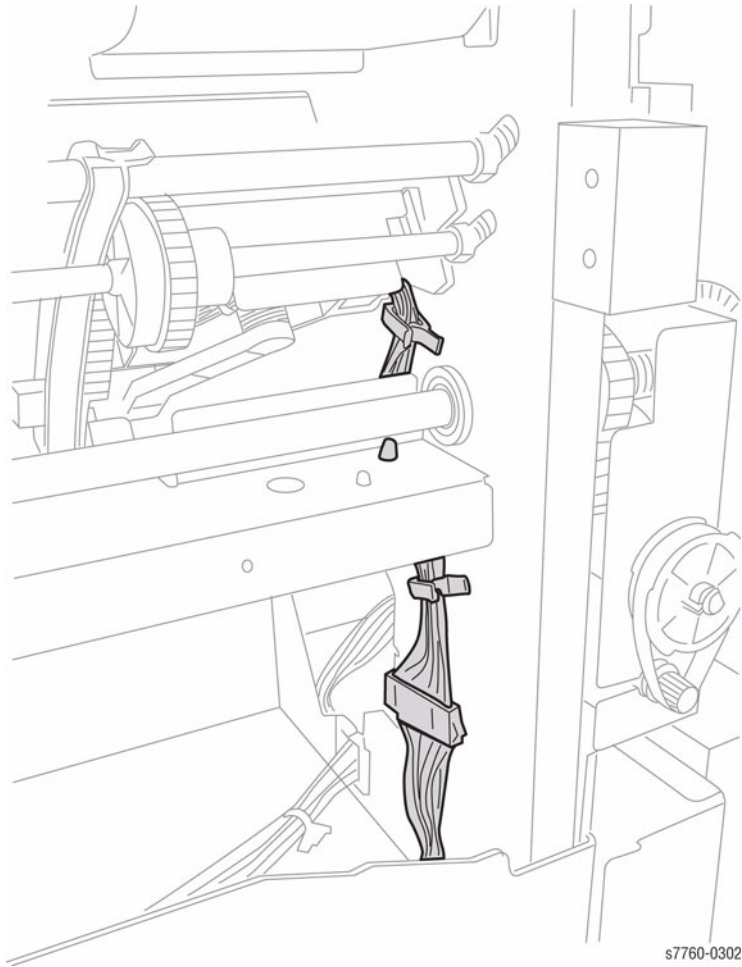

Figure 2 Disconnecting Compiler Wiring Harnesses
6. Disconnect the Compiler wiring harnesses (Figure 2).